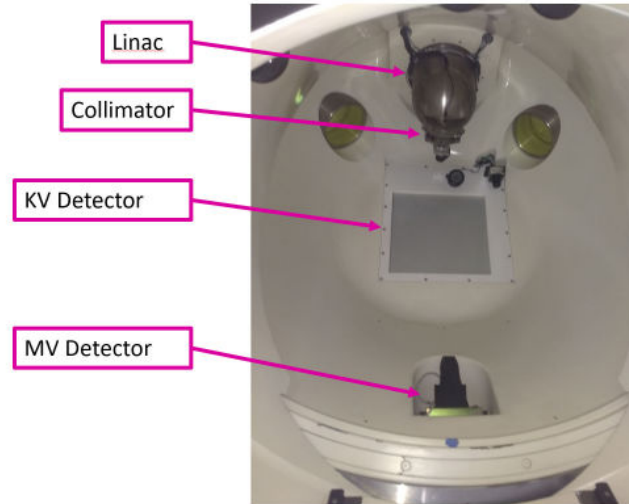

Figure 1.1.3. The inside of the ZAP-X system.
Figure 1.1.3 shows the inside of the system as viewed from the table entrance.
- **Linac**: Inside the system is the linear accelerator which delivers the treatment beam (Figure 1.1.3 shows the Linac enclosure).